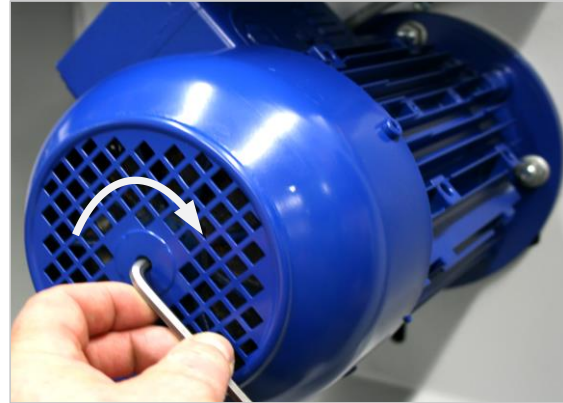

Figure 45: Readjusting the motor brake
- Insert an angled SW5 Allen key through the fan cover and insert it into the hexagon socket of the front-side set screw (see ⇒ Figure 45).
- Turn the Allen key approx. 1/8 turns clockwise as shown in ⇒ Figure 45.